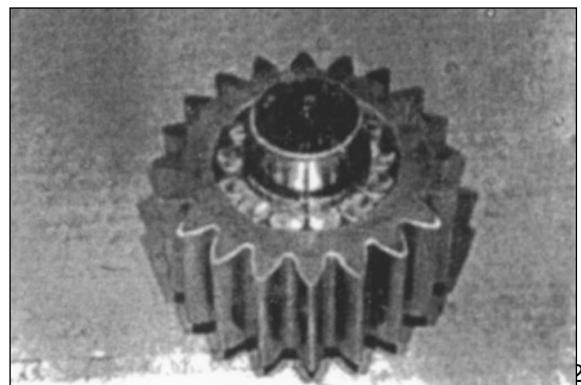

Figure 102
11. Assemble planetary gear assembly. Figure 102.